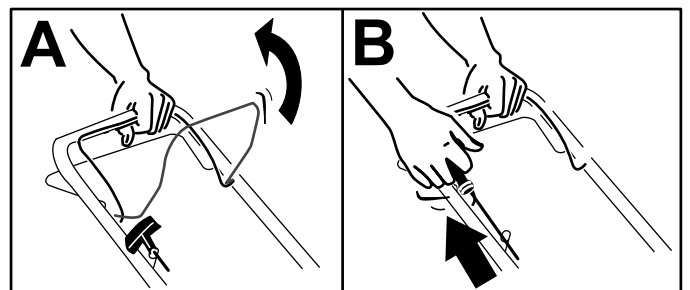

Figure 13
1. Hold the blade-control bar against the handle (A of Figure 13).
2. Pull the recoil-start handle (B of Figure 13).